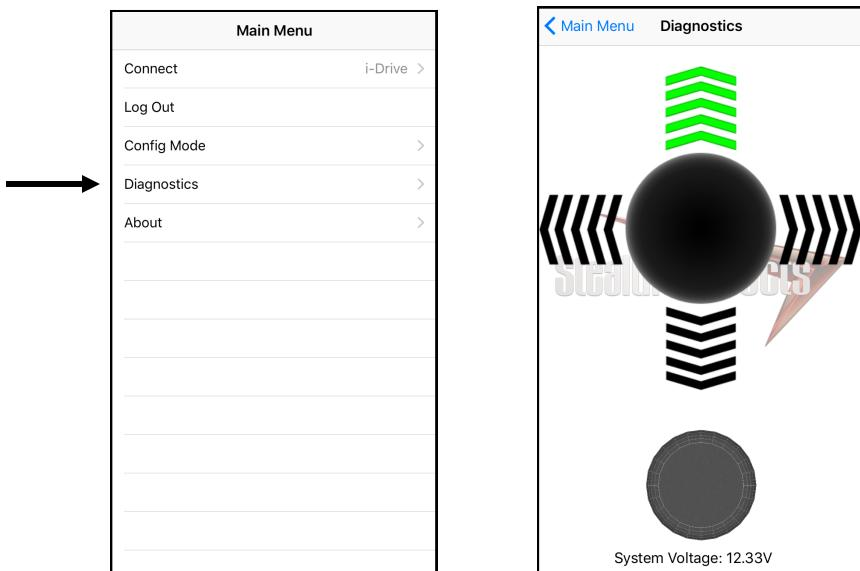

Figure 8
3. Test the assignments on your i-Drive device by activating each channel. When the direction assigned to the channel has been activated, the direction should light up in green. (*Figure 8*)